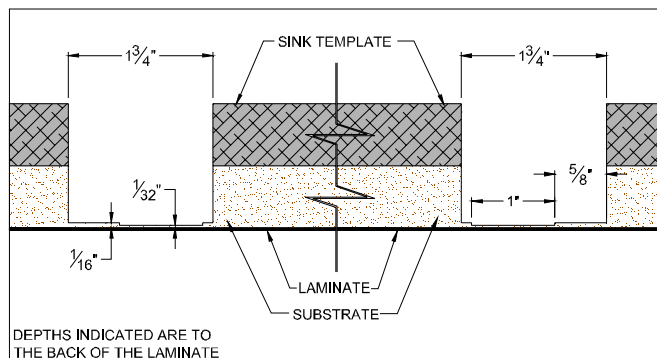

Figure 10A
- Index a 31/4 HP or 21/2 HP plunge router with a 1" straight cut router bit and a 11/4" (31.75mm) template guide to remove the remaining substrate to within 1/32" of the laminate. (FIG. 10A)